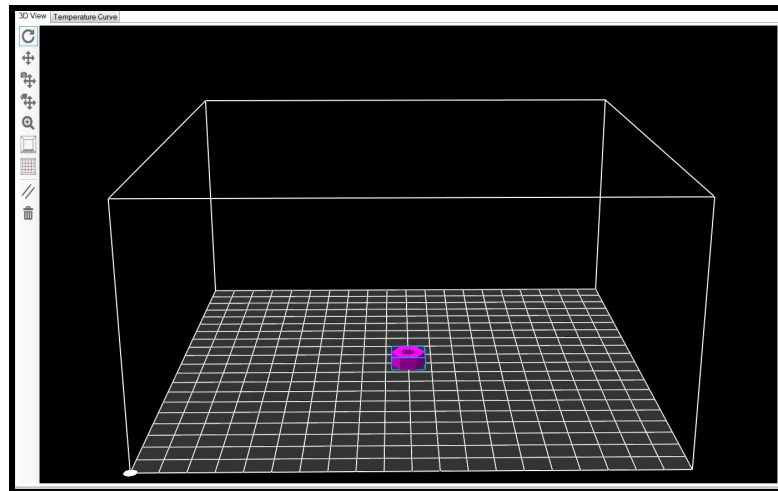

Figure 3.11: Gear Insert in 3D Viewer (Corrected)
56. After making the changes to the Object Placement values, the 3D viewer should look like Figure 3.11.